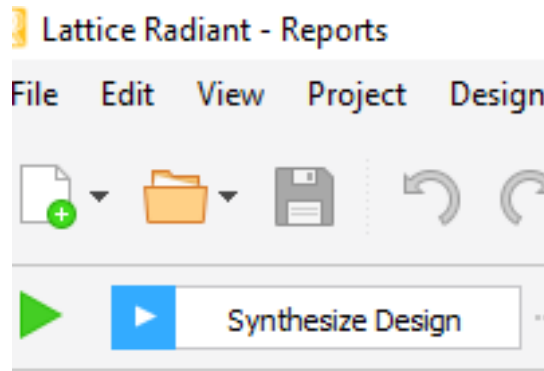

Figure 3.3. Synthesizing Design
5. Upon generating desired design, you can synthesize it by clicking **Synthesize Design** located in the top left corner of the screen, as shown in Figure 3.3.